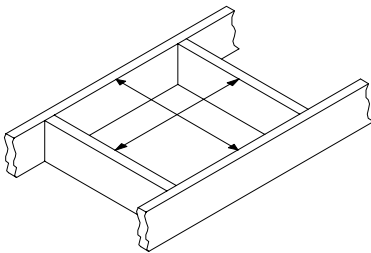

Fig 2
opening as shown in Fig. 2.
4. Install Firestop Radiation Shield(s): If the Chimney passes through additional floors or ceilings, install **Firestop Radiation Shields**. Where the chimney passes into an attic, install a **Firestop Radiation Shield** and an **Attic Insulation Shield**. Frame the opening for the **Firestop Radiation Shield** as shown in Fig. 2. Locate each opening by dropping a plumb bob to the four corners of the opening below.